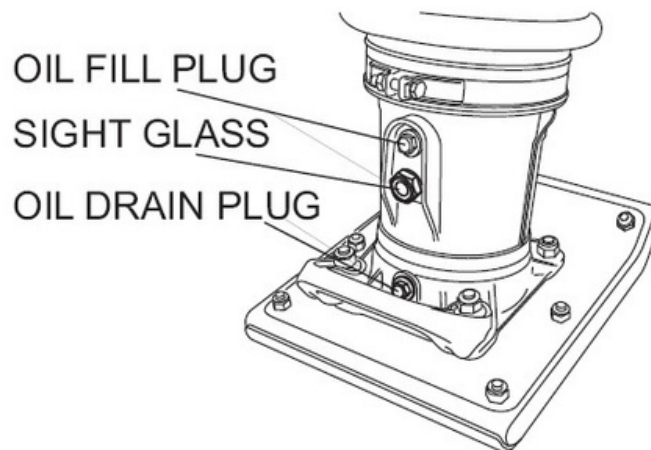

Figure 14 Foot Housing Drain Plug
- ☐ Drain oil reservoir on foot housing (Figure 14). Refill with approximately 1000cc of MOBIL ISO VG-46 or other oil with same standard. Oil should be midway in sight glass. Break in oil should be changed after first 50 hours.